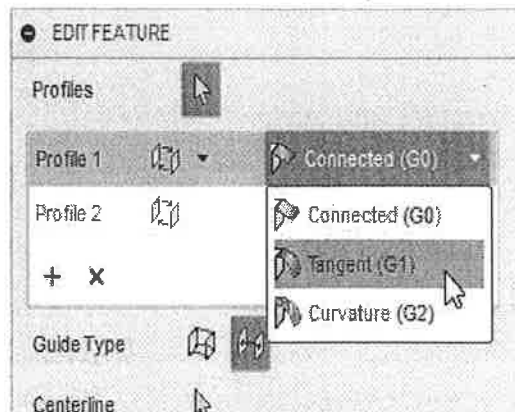

Figure 12-24
2. By default, the end condition between a new loft and selected geometry is set so that no end condition is applied (**G0**). In the *Profiles* area, expand the end condition drop-down list for *Profile1* and select **Tangent (G1)**, as shown in Figure 12-24.